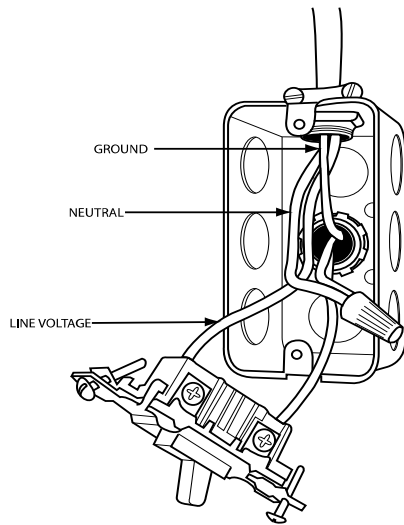

Fig. 36 – External Electrical Box
5. Fasten the external electrical box to the furnace casing using two (2) sheet metal screws.
11. Connect field power and neutral leads to furnace power leads inside the external electrical box as shown in Fig. 36.
1. Drill two (2) 1/8-in. (3 mm) pilot holes through the dimples in the furnace casing near the 7/8-in. knockout or plug on the side of the casing. Do not remove the knockout or plug in the side of the casing.
9. Connect field power and neutral leads to furnace power leads inside the external electrical box as shown in Fig. 36.